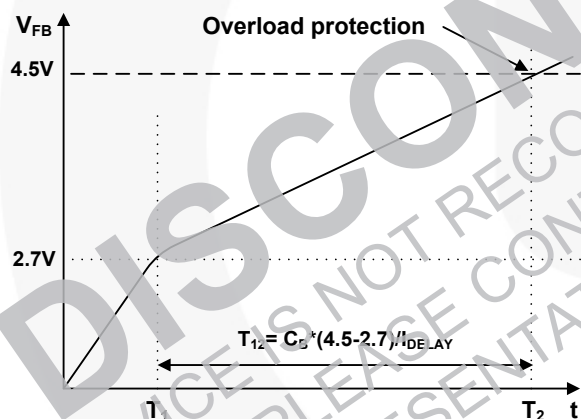

Figure 18. Overload Protection
3.1 Overload Protection (OLP): Overload is defined as the load current exceeding its normal level due to an unexpected abnormal event. In this situation, the protection circuit should trigger to protect the SMPS. However, even when the SMPS is in the normal operation, the overload protection circuit can be triggered during the load transition. To avoid this undesired operation, the overload protection circuit is designed to trigger after a specified time to determine whether the situation is transient or a true overload. Because of the pulse-by-pulse current limit capability, the maximum peak current through the senseFET is limited and, therefore, the maximum input power is restricted with a given input voltage. If the output consumes more than this maximum power, the output voltage (V_O) decreases below the set voltage. This reduces the current through the opto-coupler LED, which also reduces the opto-coupler transistor current, thus increasing the feedback voltage (V_{FB}). If V_{FB} exceeds 2.7V, D1 is blocked and the 5 μ A current source starts to charge C_B slowly up to V_{CC} . In this condition, V_{FB} continues increasing until it reaches 4.5V, when the switching operation is terminated, as shown in Figure 18. The delay time for shutdown is the time required to charge C_B from 2.7V to 4.5V with 5 μ A. In general, a 10 ~ 50ms delay time is typical for most applications. This protection is implemented in auto restart mode.